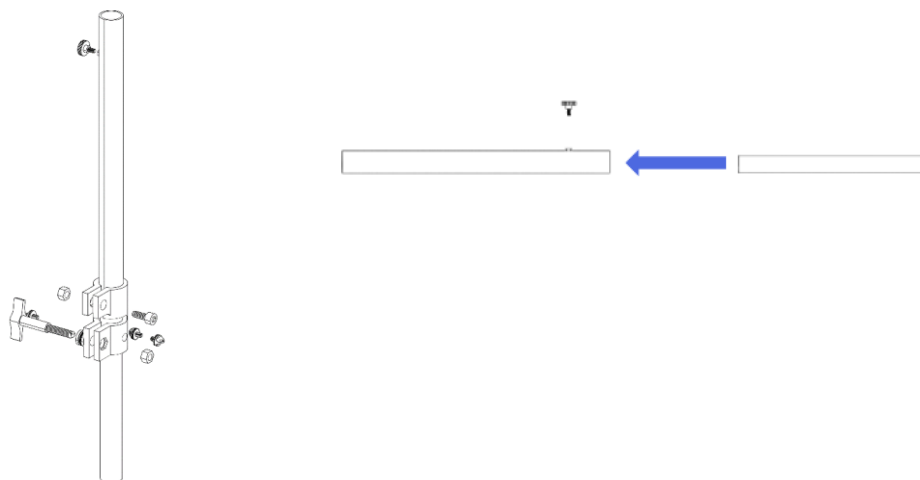

Figure 10: Assembly of Telescoping Down Rod
2. Loosen the **knurled knob** on the top of the **Telescoping Down Rod** (Part #7) and insert the narrow end of inner **21.125" Telescoping Down Rod** (Part #8) into the **25" Telescoping Down Rod** (Part #7). The inner **Down Rod** (Part #8) should slide all the way to the bottom of the **Telescoping Down Rod** (Part 8) and **Down Rod Collar** with the knob and screws (Part #6). If it doesn't slide through then loosen the allen bolts on the collar until it does. Then lightly tighten the nut on the **Down Rod Collar** (Part #7). It should look like Figure 10 below.